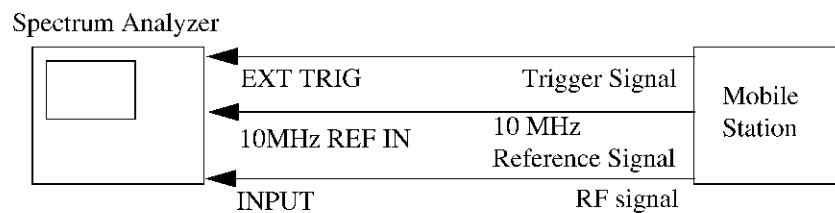

Figure 2-8 Setup for the MS (Mobile Station) Code Domain Power Measurement
1. Connect the unit under test as shown in Figure 2-8.